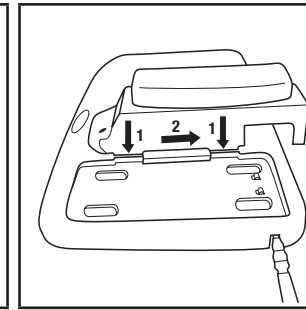

Fig. 2 – Multi-station charger setup
- 3M™ 4-Station Battery Charger TR-644N: Insert the TR-640 into one of the charging ports on the 3M™ 4-Station Battery Station Base TR-944N and slide back to lock into place (Fig. 2). (**NOTE:** the 3M™ Versaflo™ Single Station Power Supply TR-941N is not used with the TR-640, when the 4-station charger is used.)